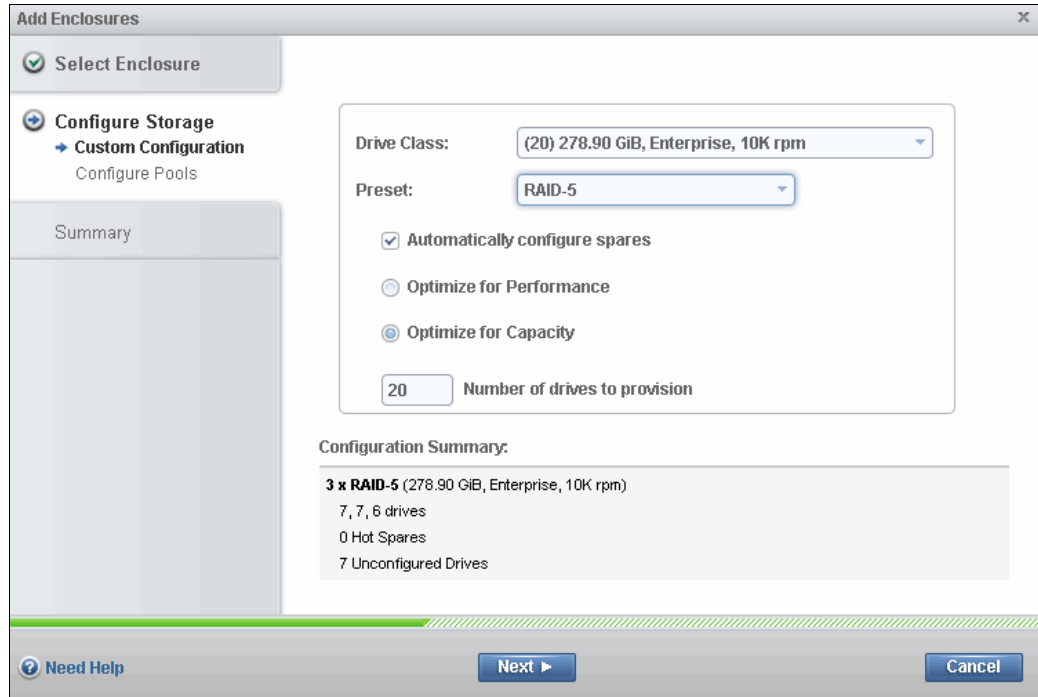

Figure 2-39 The suggested configuration
8. As shown in Figure 2-39, the IBM Storwize V3700 offers the suggested internal RAID arrays based on the class of drive and the level of RAID previously chosen. The configuration is shown at the bottom of the window in the summary section. Accept the defaults and click **Next**.